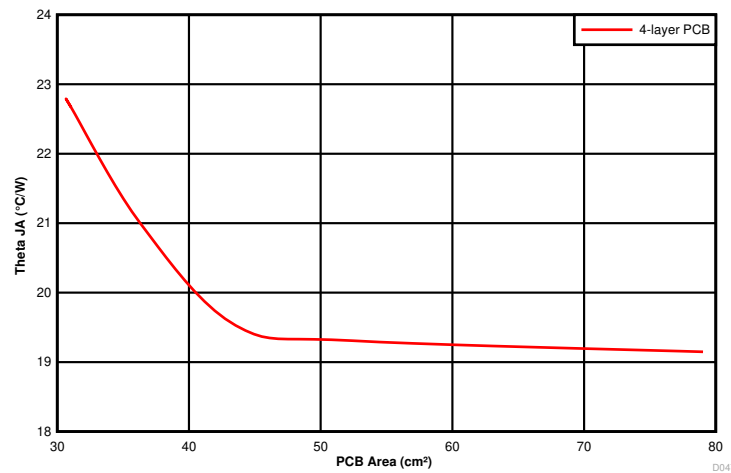

Figure 10-4. $R_{\theta JA}$ versus PCB Area (per Layer)
The amount of PCB copper affects the thermal performance of the device. Figure 10-4 shows the effects of copper area on the junction-to-ambient thermal resistance ($R_{\theta JA}$) of the TPSM53604. The junction-to-ambient thermal resistance is plotted for a 4-layer PCB with PCB area from 30 cm² to 80 cm².
3. Reference Figure 10-4 to determine the minimum required PCB area for the application conditions.